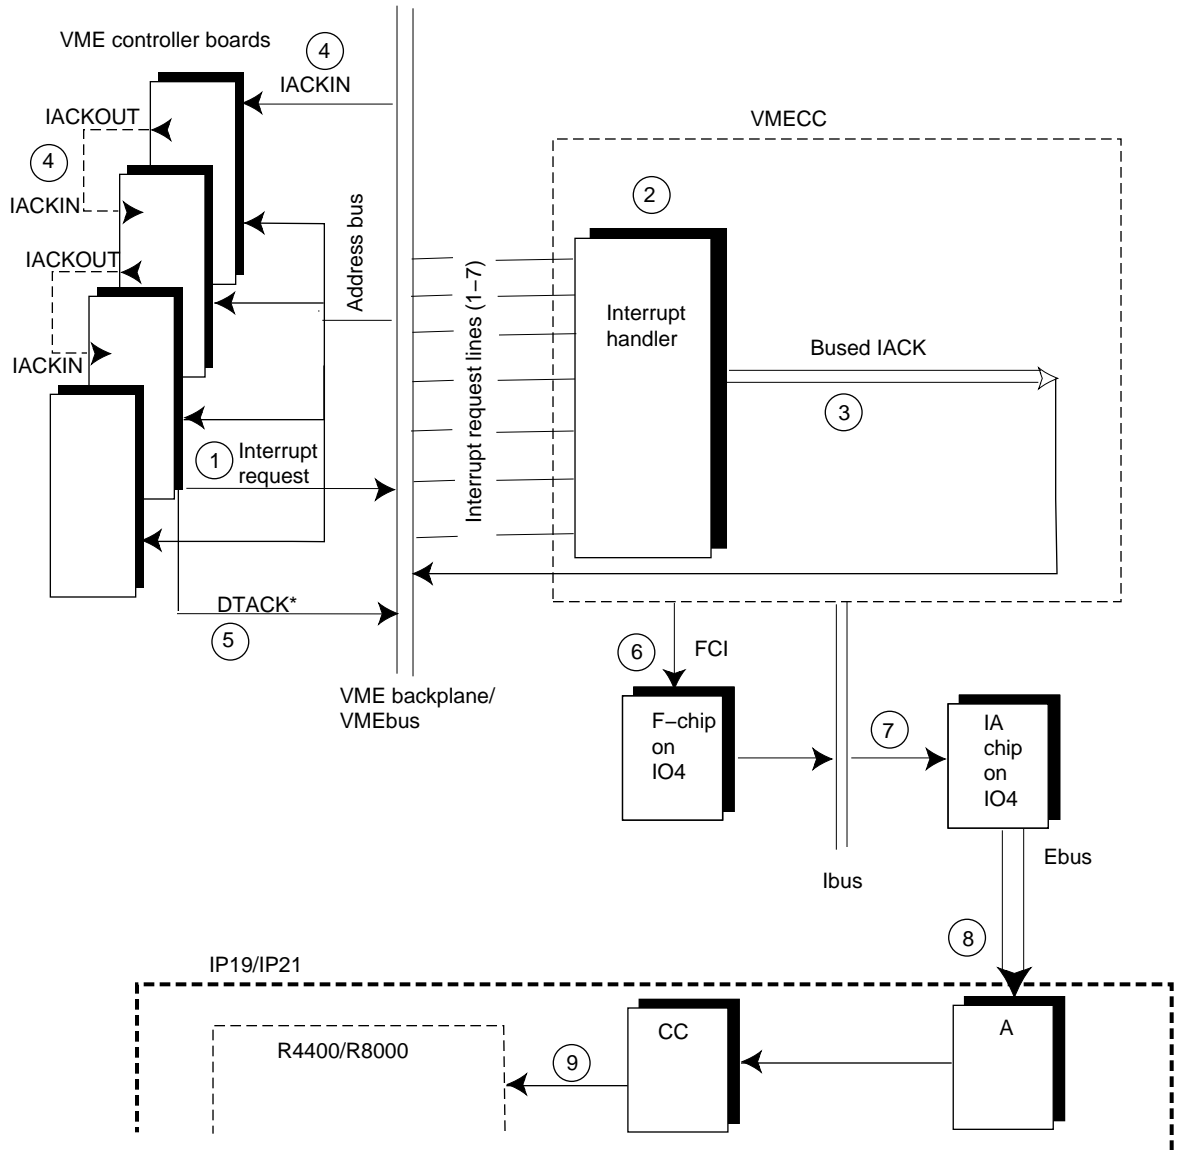

Figure E-5 VMEbus Interrupt Generation
The following steps and Figure E-5 outline how a VMEbus interrupt is generated. The step numbers correspond to the ordered numbers in the figure.
4. If multiple VME boards are present, the bused IACK signal is sent to the first VME controller as an IACKIN. As shown in Figure E-5, since the first controller is not the requesting master, it passes the IACKIN signal to the next board (in the daisy-chain) as IACKOUT.